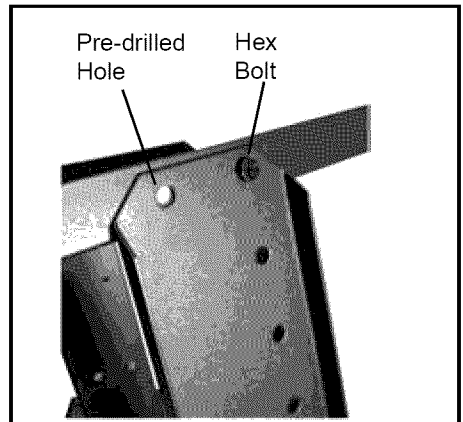

Fig 6.
11. Find the top shelf. Position this shelf so that the lips point up. Align the pre-drilled mounting holes in the lip of the top shelf with the pre-drilled mounting holes in the Vertical Cylinder Securement Panel and both the left side and right side vertical side panels (Fig 6). Using a hex bolt, slide the bolt through the pre-drilled holes in the lip of the top shelf and into the matching pre-drilled holes in the Vertical Cylinder Securement Panel, the Left Side Vertical Panel and the Right Side Vertical panel. Secure with a Hex Nut. Repeat for all the mounting holes.